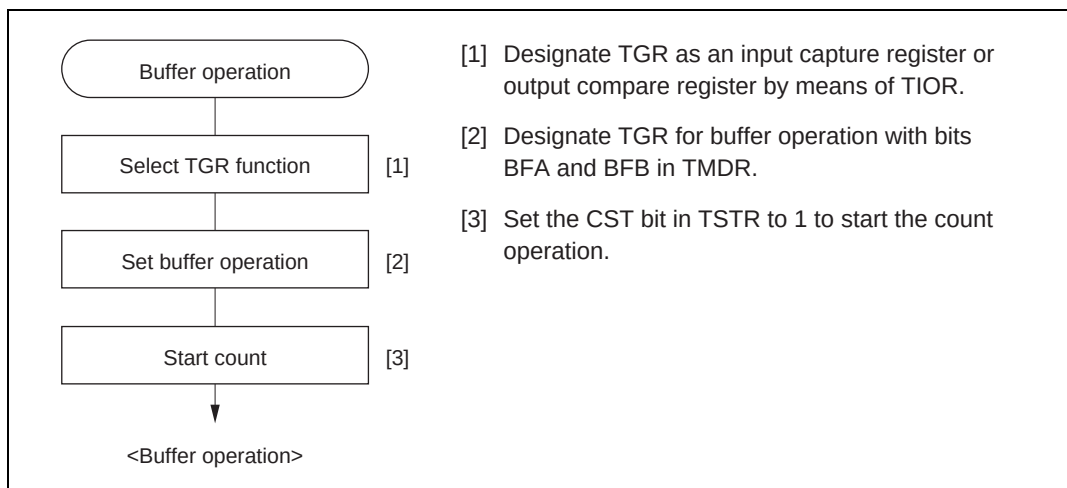

**Figure 9.18 Example of Buffer Operation Setting Procedure**
**Example of Buffer Operation Setting Procedure:** Figure 9.18 shows an example of the buffer operation setting procedure.